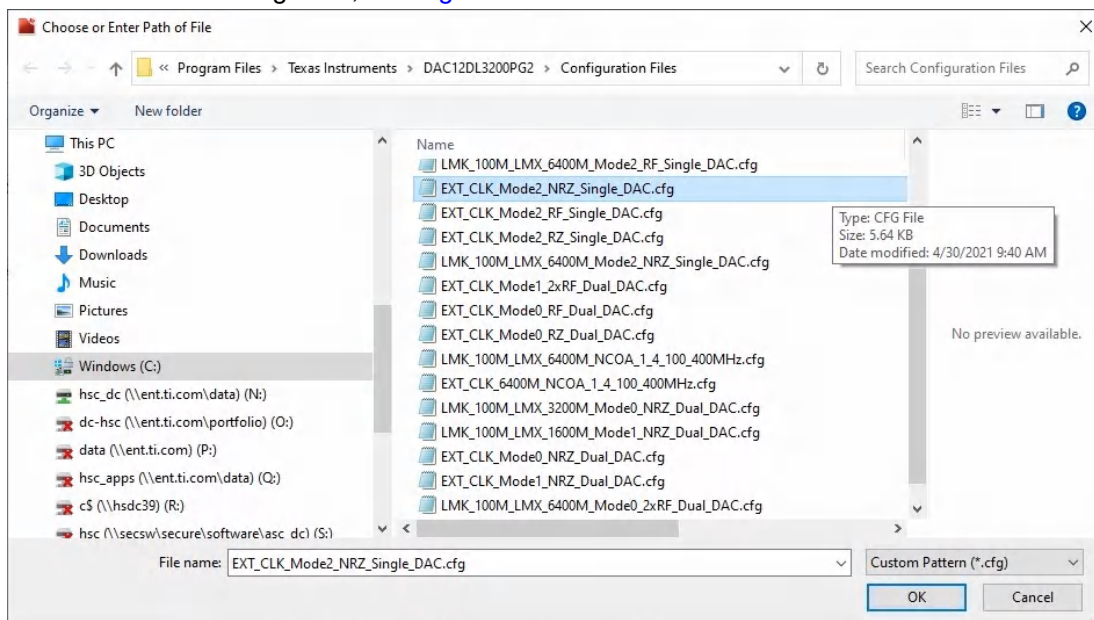

Figure 3-4. Selecting Configuration File
- Click on the *File* icon and navigate to “EXT_CLK_Mode2_NRZ_Single_DAC.cfg” and click on the OK button to load the LMK and DAC registers, see Figure 3-4.